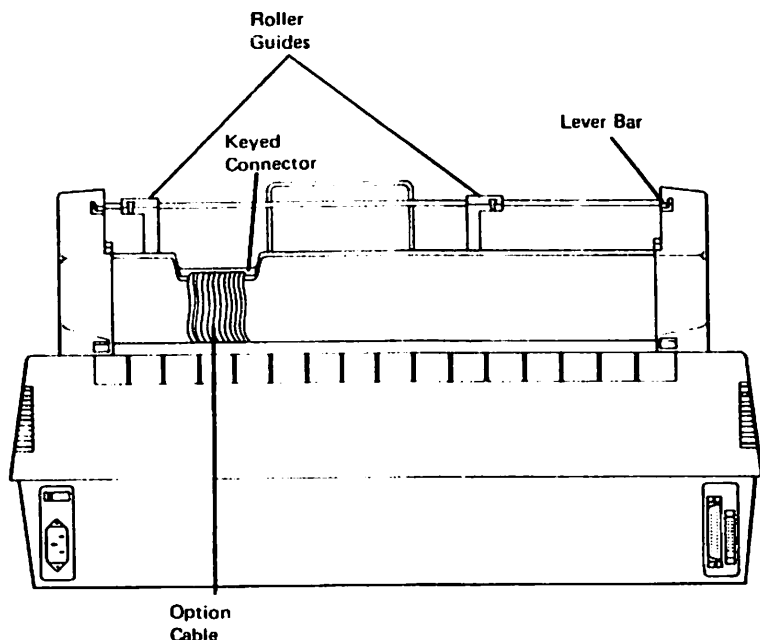

Figure 11 Single-bin feeder option cable
6. Connect the bin feeder option cable to the connector at the rear of the bin feeder (Figure 11).
6. Connect the bin feeder option cable to the connector at the rear of bin feeder 1 (Figure 11).